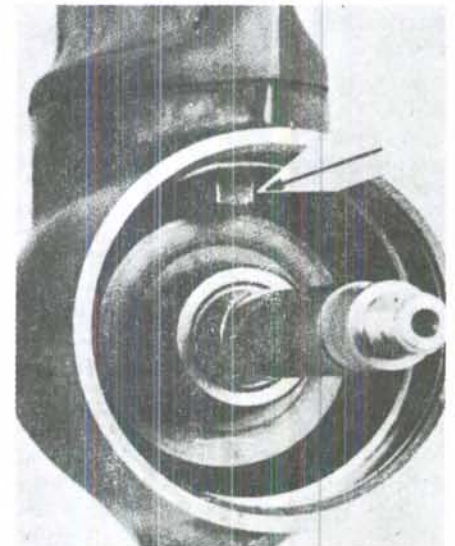

Fig. C2-15—Lower unit gearcase with propeller shaft bearing cage removed, showing location of rear stud nut (53—Fig. C2-14).
To detach lower gearcase (54) from drive shaft housing (30), unscrew and remove shift rod (9) from cam (12). Housings are secured by screw (52) at forward end and stud nut (53) INSIDE the case shown by arrow, Fig. C2-15.